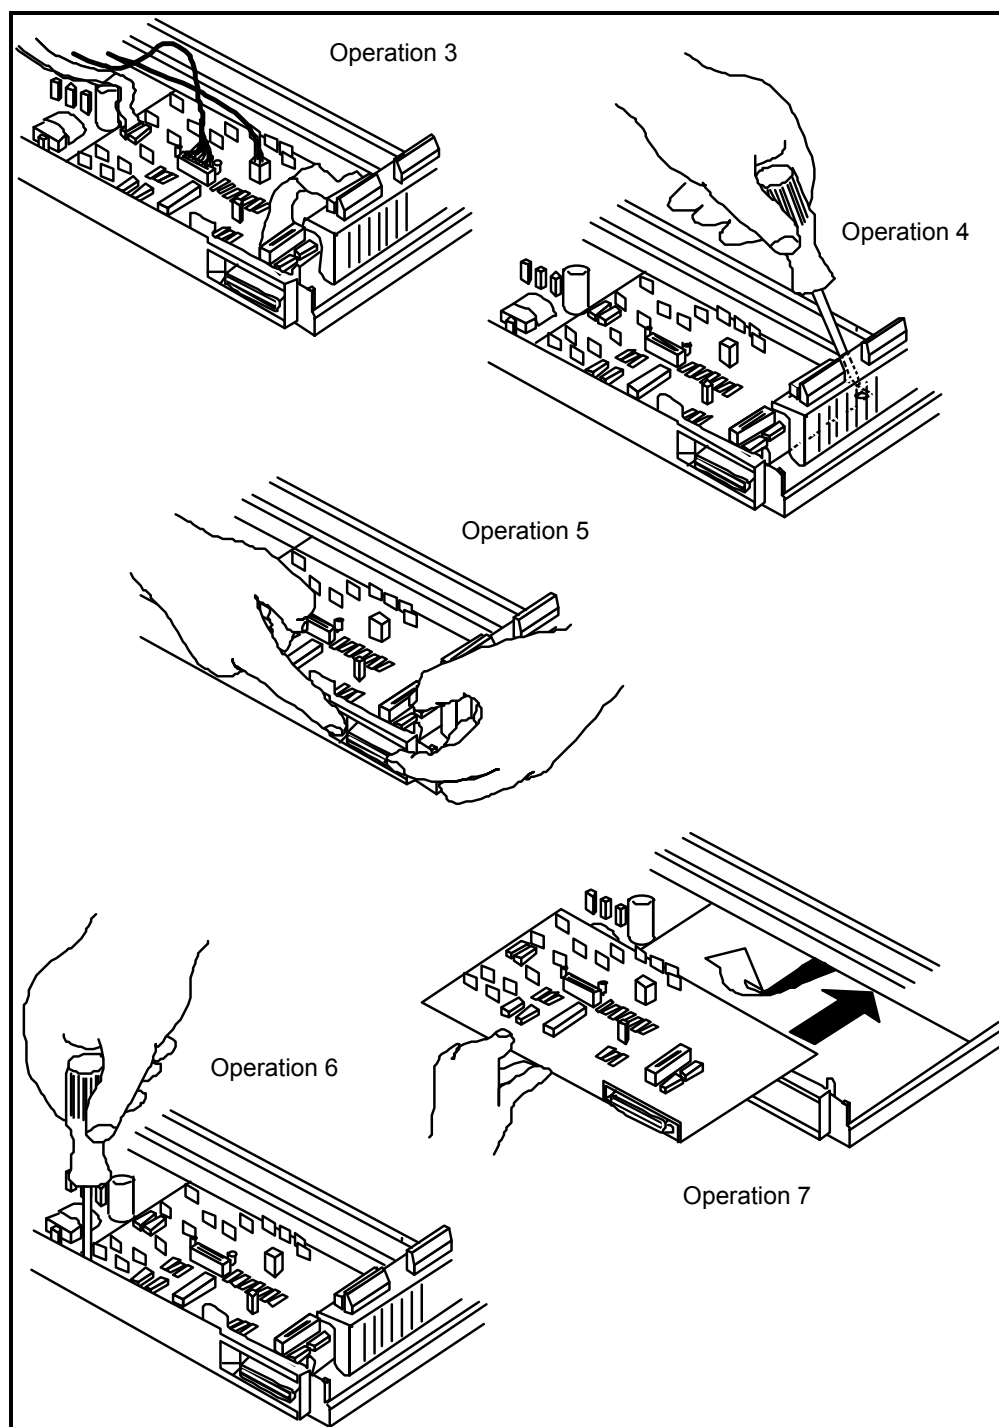

Figure 18-10 — Main Processing PWA Replacement
3. Carefully disconnect all the cables plugged onto the main processing board as shown in Figure 18-10. Remove the serial interface board (not shown) by partially removing two cross-head screws which hold it to the base of the printer. One screw is located approximately 4 cm (1.5 inches) to the left of the DB-25 printer connector and the other is just around the corner from the DB-25 connector. When the screws have been loosened, pull straight up on the interface board to disconnect it from the main processing board.